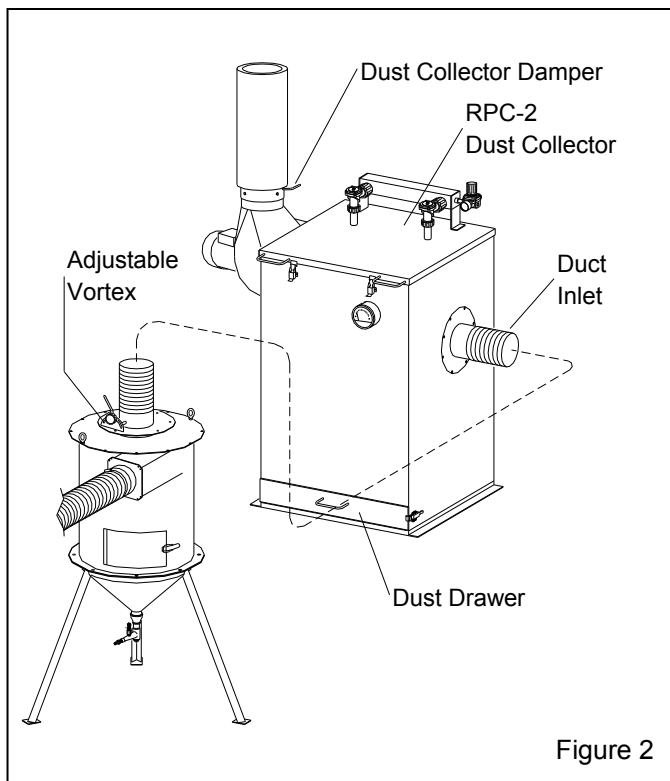

Figure 2
1.3.3 Refer to Figure 1 for arrangement of components with a CDC-1 dust collector. The illustration shows a free-standing 900 reclaimer; 300 and 600 reclaimers are mounted on the back of the cabinet. Figure 2 shows the arrangement with a RPC-2 (600 cfm or 900 cfm) reverse-pulse dust collector with dust drawer. The optional RPH-2 (600 cfm and 900 cfm) or RPH-3 (1200 cfm) is set up the same way as the RPC, but includes a hopper for additional dust storage, and empties into a drum. The overall height of the RPH is approximately 10-feet, 6-inches, and 12-ft when the top access door is open. An upgraded, RPC or RPH collector may be added at any time.
1.5.2 RPC-2 Dust Collectors: Shown in Figure 2, this collector is available in 600 cfm and 900 cfm models. Dual filter cartridges are automatically cleaned by a timed, periodic pulse of compressed air. Dust collects in the drawer and must be frequently emptied. Refer to manual number 22788.
1.5.3 RPH-2 Dust Collector: The RPH-2 is available in 600 cfm and 900 cfm models. It is set up and operates the same as the RPC-2, as shown in Figure 2, but instead of a dust drawer, the collector sits atop a hopper, which provides additional dust storage, and empties into a drum. Refer to manual number 21449.
2.1.1 Refer to Figure 1 (and Figure 2 for optional RPC-2 dust collector) for the general arrangement. Place all components in a convenient location where compressed air and electrical service are available. The cabinet location must comply with OSHA and local safety codes. Allow for full access to all doors and service areas, and for efficient handling of large parts. Provide enough clearance at the dust collector for maintenance and to remove the dust container. Place free-standing reclaimers directly behind the cabinet with flex hose connections and metering valve facing toward the cabinet to allow for as few bends as possible. Determine the best location for all components and position them before making compressed air connections, electrical connections, and attaching flex hose.